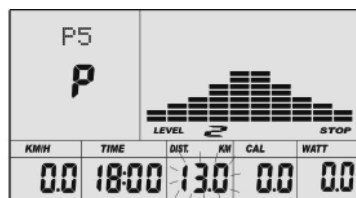

Fig 27
D. The distance will flash, and then press (or rotate) UP, DOWN button to set up the desired distance value. Press ENTER to confirm the value. (See Fig 27)